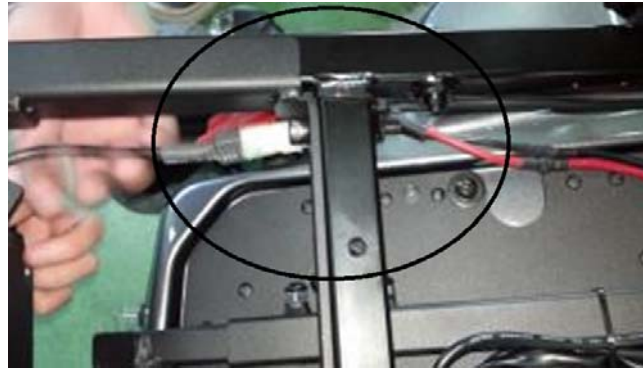

Figure 5-157
5.3.16.14 Connect the connector of the tilt actuator to the connector fixed on the right side of the seat frame. (Figure 5-157)